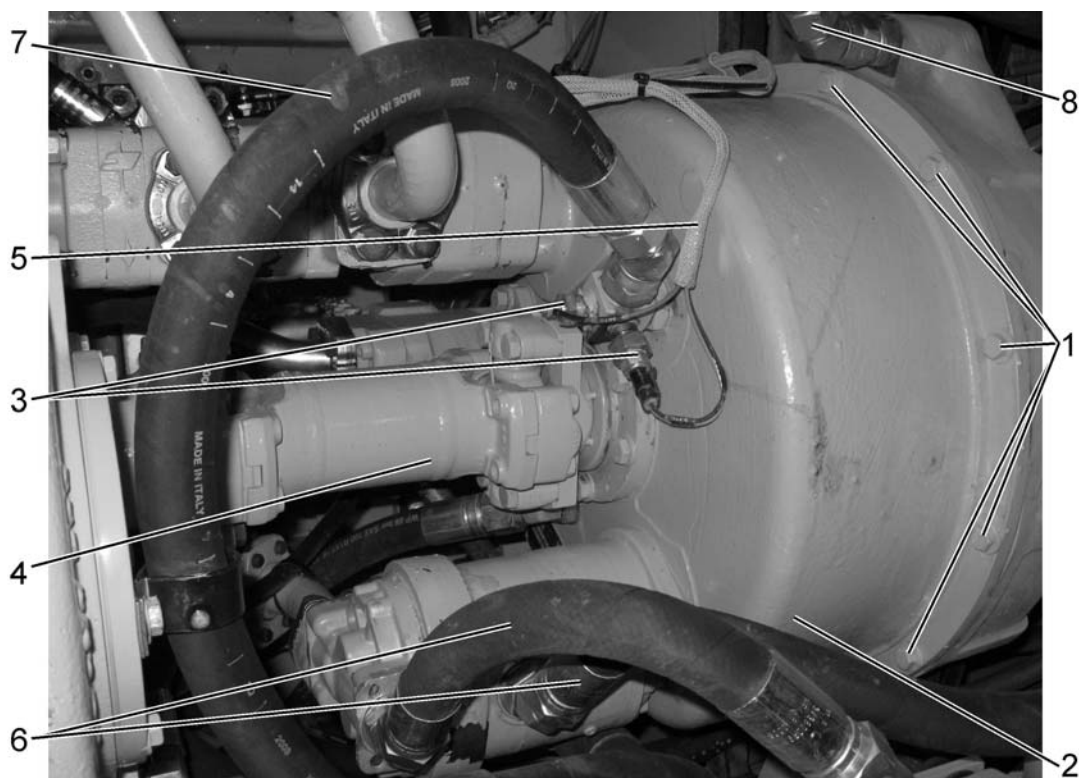

Fig. 7B.5. Lower Torque Converter Disconnecting Points
11. Install the eyebolt M16 in the threaded hole (7, Fig. 7B.4) located in the top of the torque converter housing. Attach a hoist to the eyebolt in the torque converter. Place a sling tension on the hoist and remove the torque converter mounting bolts (1, Fig. 7B.5). Move the converter back to clear the flywheel housing and take up the torque converter.